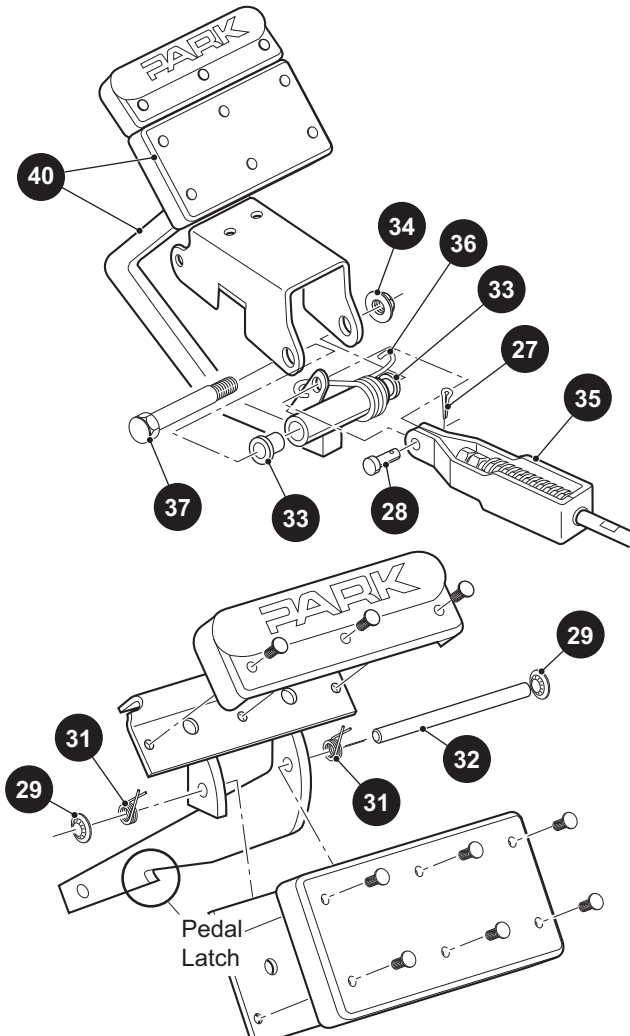

Fig. 28 Brake Pedal Removal and Installation.
1. Disconnect the compensator assembly (35) from the brake pedal (40) by removing the cotter pin (27) and the clevis pin (28) (Ref Fig. 28).
3. Unhook the torsion spring (36) by inserting a thin blade screwdriver between the small hook and the bracket. Move the hook back and to the side to release the torsion spring.
4. Remove the lock nut (34) and bolt (37) and remove the brake pedal.
5. Inspect the bolt (37) for corrosion that could cause binding. The bolt and both bushings (33) must be replaced if corrosion or wear is found (Ref Fig. 28).
7. Tighten the nut (34) to the torque values below.
- Note the location and orientation of the two torsion springs (36).
- Remove the push nuts (29) and pin (32) and remove the parking brake pedal (Ref Fig. 28).
- Assemble in the reverse order of removal using new push nuts (29) (Ref Fig. 28).
- If required, adjust the kick-off cam (3) (See Kick Off Cam Adjustment on page 107).